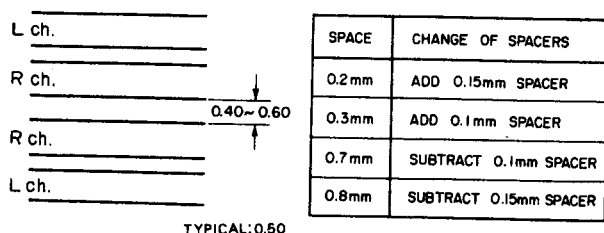

Fig. 6.7
- (1) Load a blank tape, Reference CrO2 (DA09009A). Set the TEST TONE SW to the ON position, the TAPE SELECTOR SW to the CrO2 position, and the MONITOR SW to the Tape position. Set to Record mode and adjust record head azimuth alignment screw D until the alignment beacon started flickering alternately. Record the same portion of the both A and B sides of the tape.
- (2) Immerse the recorded tape into a magnetized developing solution. In turn, check to insure that the recording head tracks across the center are separated by space of 0.4 to 0.6mm typically 0.5mm as illustrated in Fig. 6.7. If not readjustments from item 6.2.2. will be required.